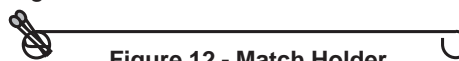

Figure 12 - Match Holder
2. Insert either a burning long-barrel butane lighter, a burning long-stem match or a burning match held by the match holder (Figure 12), attached to the drip tray through the cooking grids to the burners below the flavor grid.